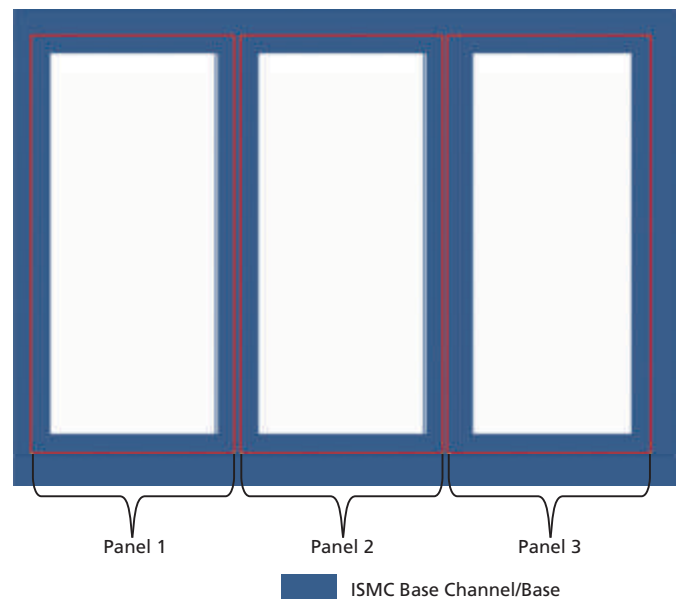

Figure 14 - Panel Mounting on ISMC Base Channel / Base Frame
- Refer Figure 14 for placing the panel on to the ISMC Base channel / Base frame
Please ask for project specific drawings if you are bolting the panel to an ISMC base channel/frame. If you decide to tack-weld the panels to the base channels/frames, such drawings are not required Figure 14.